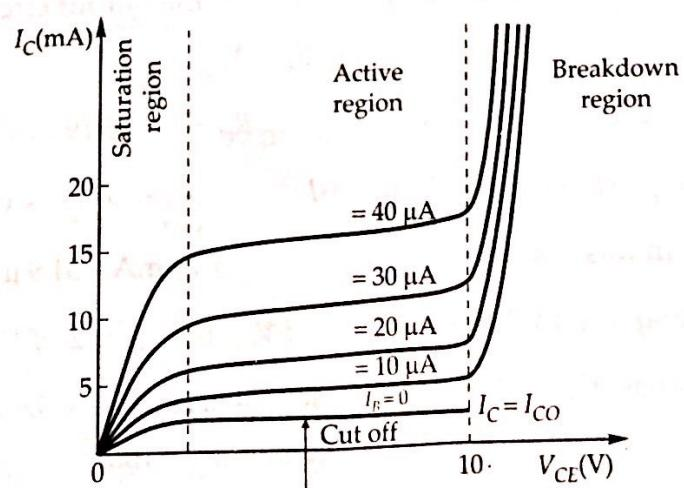

Figure 5.11 Output characteristics.
**Output characteristics.** It is curve between collector current ( $I_C$ ) and collector-emitter voltage ( $V_{CE}$ ) for different values of  $I_B$  as shown in Fig. 5.11.